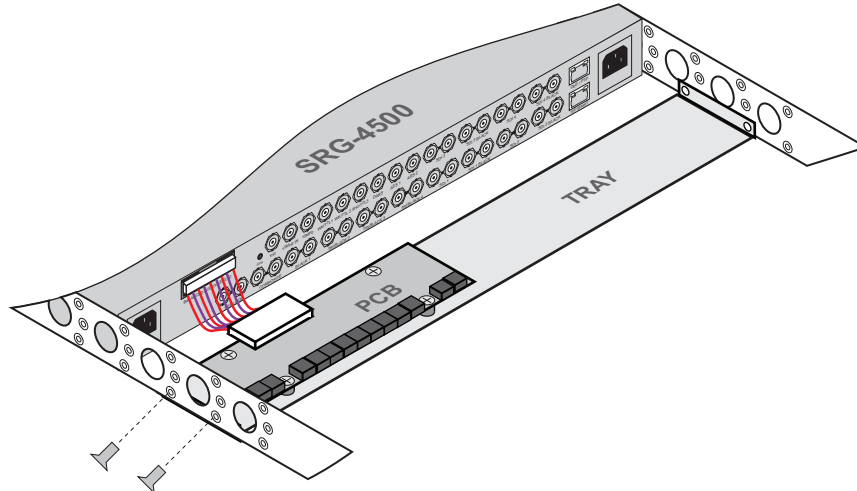

Figure 13.3 Connecting the Breakout PCB to the SRG-4500 Rear Panel
2. Connect the other end of the same Interface Cable to the **BALANCED** Connector on the SRG-4500 rear panel. Refer to **Figure 13.3**.